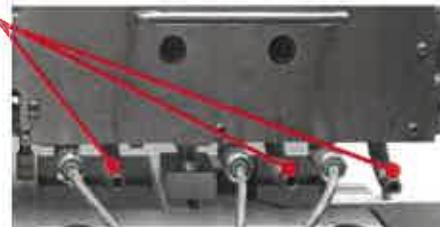

Fig. 8-51: Cooling air supply to KDSE
- Use suitable plastic hoses in order to connect the cooling air flanges of the barrel control zones of the conical twin screw extruder KDSE (see Fig. 8-51) to the flanges "Cooling Air" zones no. 1 - 3 at the terminal board of the Plastograph® EC Plus* (see Fig. 8-52) and of the docking station*, respectively (see Fig. 8-53).